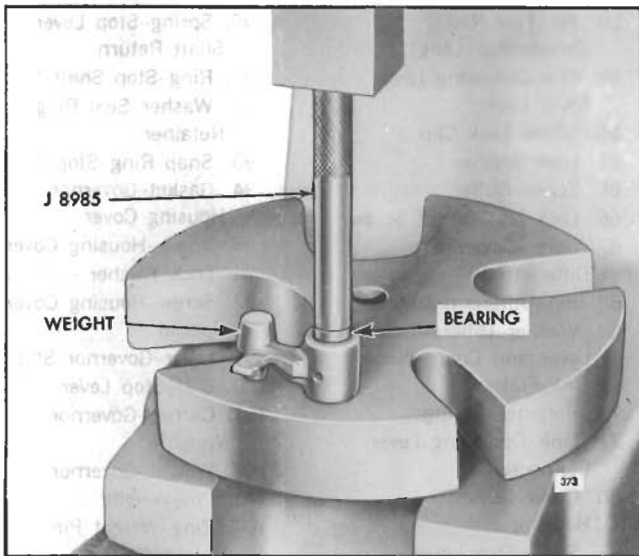

Fig. 20 - Installing Bearings in Governor Weight
- d. Insert the pilot end of installer J 8985 in the bearing and under the ram of the press as shown in Fig. 20. Then press the bearing straight in the weight until it is flush with the top of the weight. Reverse the weight on the press and install the second bearing in the same manner.